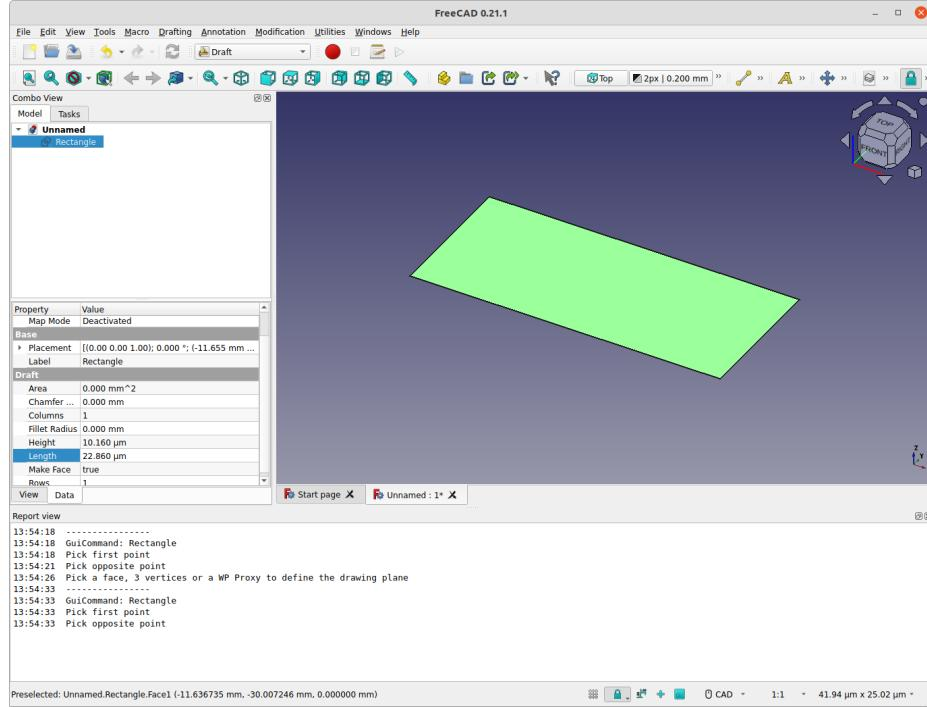

Figure 2: Screen shot of a rectangle sized for WR90 waveguide using  $\mu\text{m}$  for ultimate mm scaling.
- Zoom to view the rectangle with `View→Standard Views→Fit All`. A reference screen shot is shown in Fig. 2